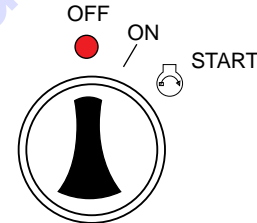

Figure 12. Ignition Switch
4. Insert the ignition key (Figure 12) into the ignition switch.